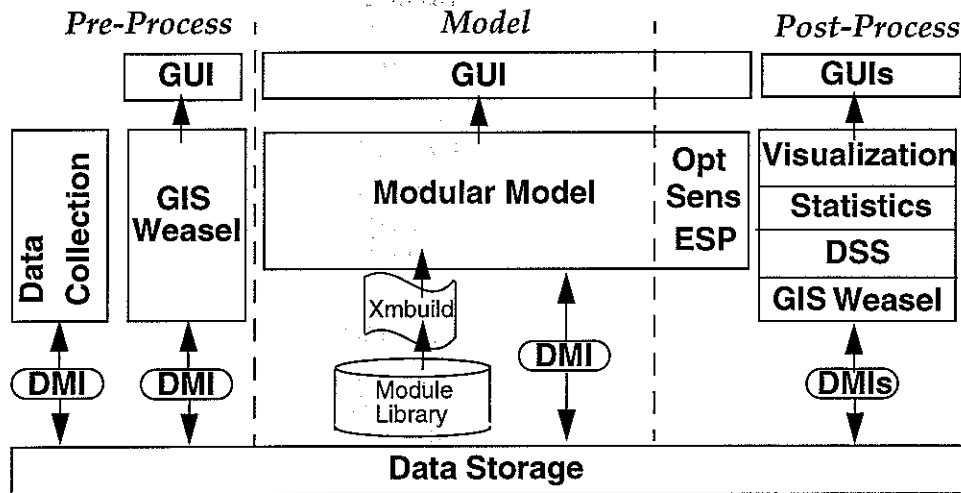

Figure 1.1. A schematic diagram of the conceptual components of the Modular Modeling System (MMS).
MMS has three major components: pre-process, model, and post-process (fig. 1.1). The pre-process component includes tools used to input, analyze, and prepare spatial and time-series data for use in model applications. The model component includes the tools to develop and apply models. The post-process component provides tools to display and analyze model results, and to pass results to management models or other types of software. A system supervisor, in the form of an X-window graphical user interface (GUI), provides users access to all components and features of MMS. MMS was developed for UNIX-based workstations and uses X-windows and Motif for the GUI.
Documentation for the various components of MMS will be released later. This volume focuses on the features of the model component (fig. 1.1). It is the basic User's Manual for MMS and *xmbuild* and includes information for all levels of use.
Future documentation will focus on the pre-process and post-process components of MMS (fig. 1.1) and selected special features of MMS. Component features to be documented include (1) *xmdoc*, an aid to users for converting existing code to modules